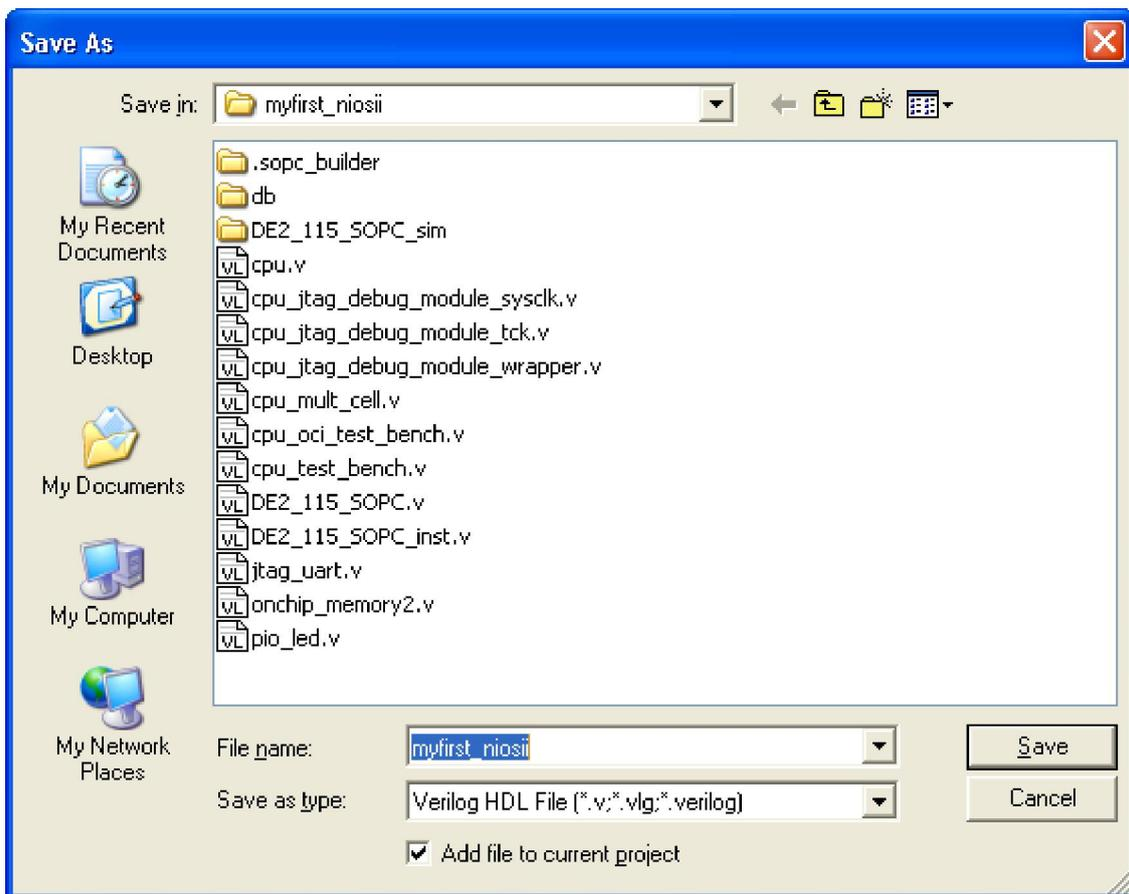

Figure 1-46 Save Verilog file
35. Choose **Save Icon** in the tool bar. There will appear a window as shown in **Figure 1-46**. Click **Save**.